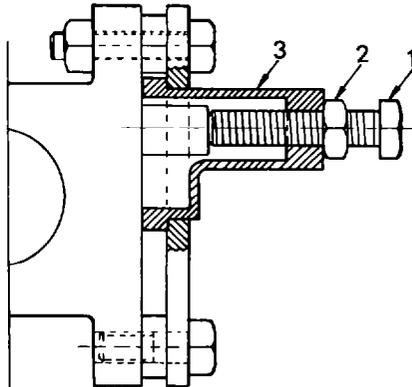

Fig. 119 — Setting "PLE" Gauge
3. Set the adjusting bolt (item 1) on the gauge to obtain a fuel flow delivery of 59.0 – 63.0 cc/500 strokes or 35.5 – 38.0 cc/300 strokes (see also fig. 119). Lock the adjusting bolt in position by tightening the locknut (item 2) against the gauge (item 3) and recheck the fuel delivery figures.